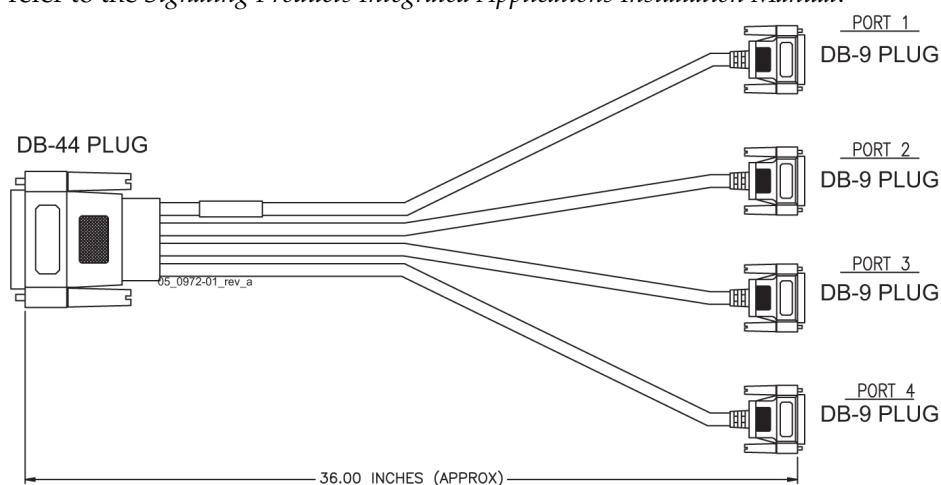

Figure 45: DB44 to DB9 (X4) Cable
1. Connect the workstation you will use as the Local Access Terminal to Port 3 of the DB44 to DB9 (X4) cable (P/N 830-0972-01), shown in Figure 45: DB44 to DB9 \(X4\) Cable.